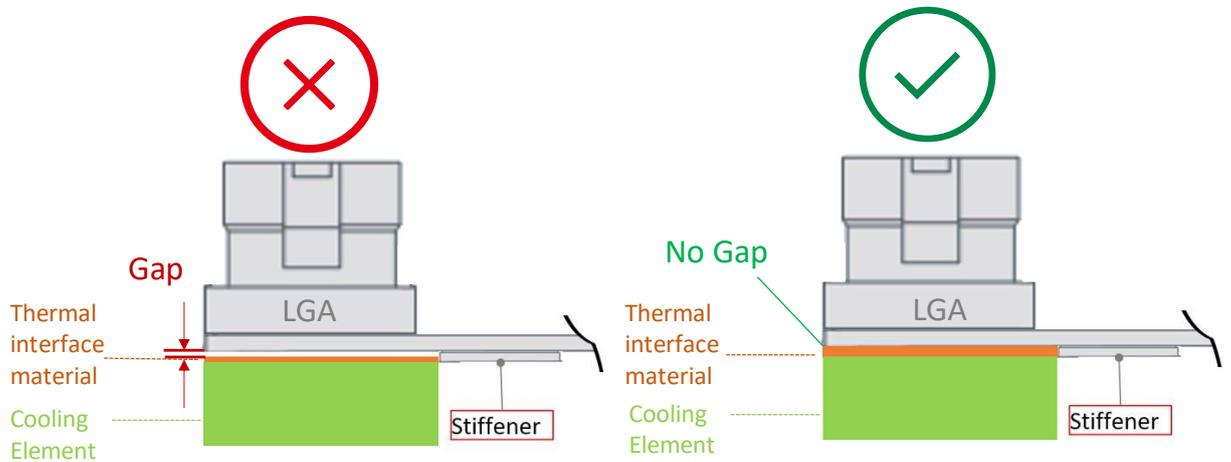

Figure 21: Recommendation to integrate BMV080 to the heat sink without gap
- While connecting heat sink to lower surface of flex PCB, ensure no gap between heat sink and LGA as shown in Figure 21